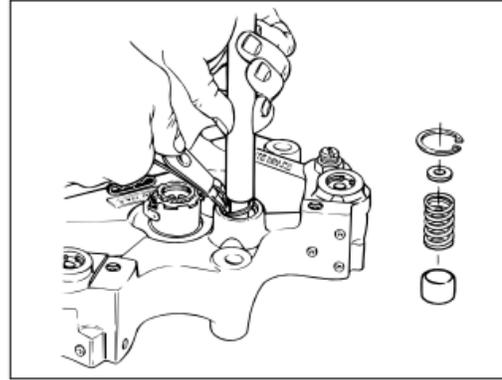

FIG. 4
1. Push down on the accumulator cover using the appropriate diameter rod and remove the retaining ring (see Fig. 4).